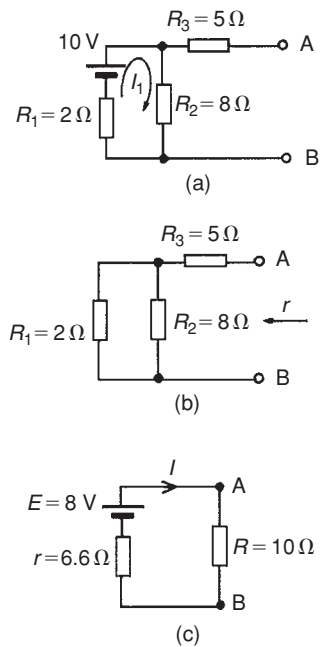

Figure 13.38
- (i) The 10Ω resistance is removed from the circuit as shown in Fig. 13.38(a)
- (iii) Removing the source of e.m.f. gives the circuit of Fig. 13.38(b). Resistance,
- (iv) The equivalent Thévenin's circuit is shown in Fig. 13.38(c)